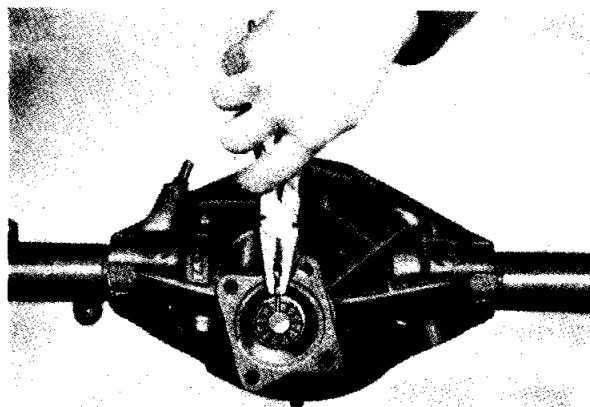

Fig. 14 Removing split pin from driving flange securing nut.
- (l) After removal of split pinned flange nut as shown in Fig. 14, and having removed the flange, drive the pinion out through the casing with a hide faced hammer. Lay aside the shims which are fitted between the spacer